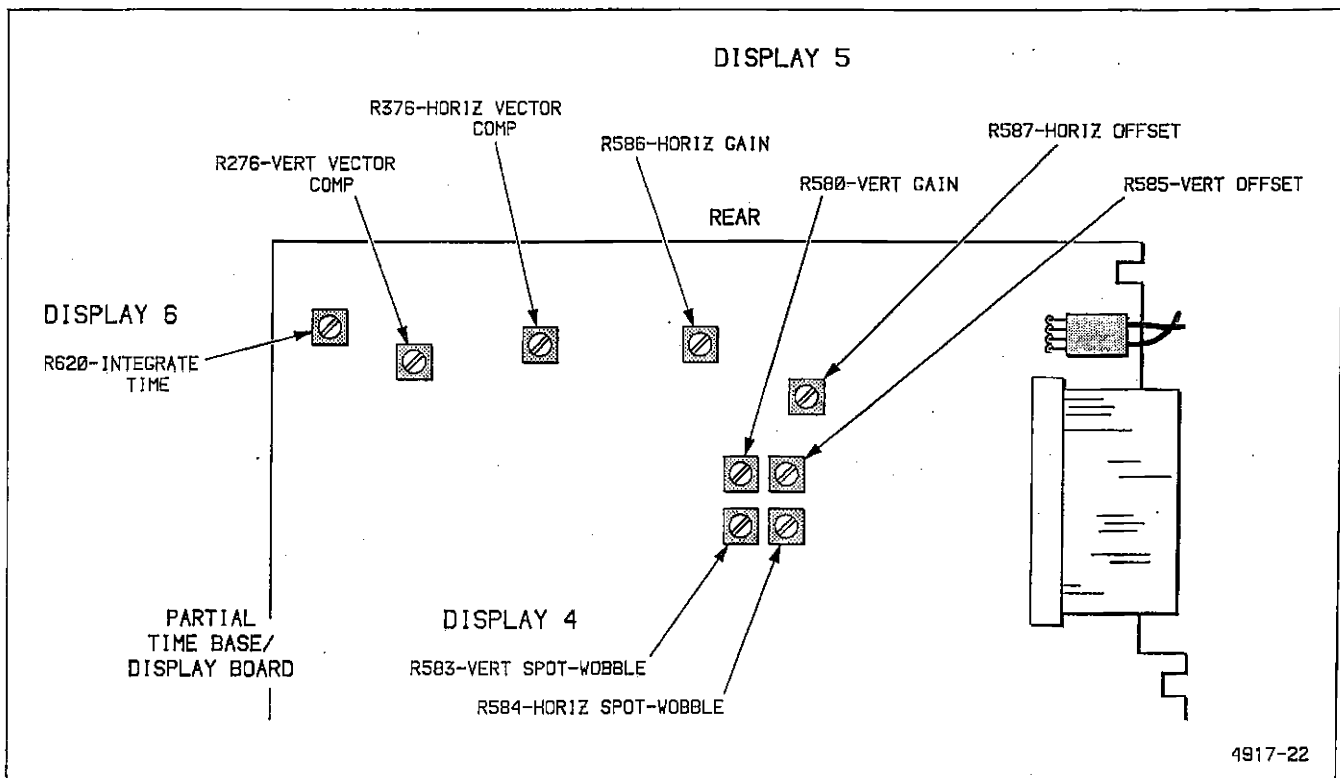

Figure 5-1. Adjustment locations for Displays 4 through 6.
s. Press any menu button to advance to Display 4. Note that all adjustment controls associated with this display are located on the top circuit board near the rear of the instrument (see Figure 5-1).
u. Press any menu button to advance to Display 5. Note that all adjustment controls associated with this display are located on the top circuit board near the rear of the instrument (see Figure 5-1).
ab. Press any menu button to advance to Display 6. Note that the adjustment control associated with this display is located on the top circuit board near the left rear corner of the instrument (see Figure 5-1).